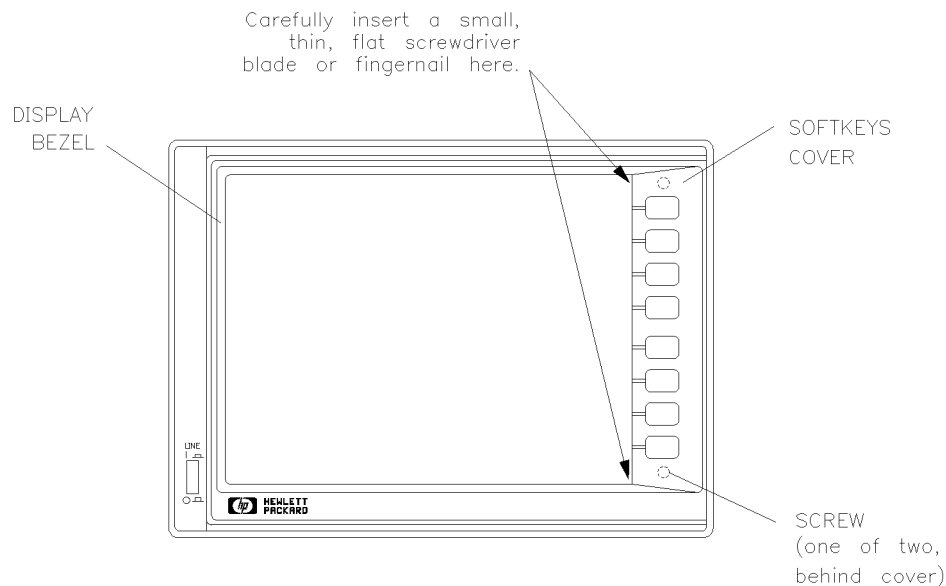

Figure 14-2. Removing the Glass Filter
1. Remove the softkeys cover (a plastic cover through which the front panel softkeys protrude): *carefully* insert a thin, flat screwdriver blade (or your fingernail) between the upper left corner of the softkeys cover and the glass filter. See Figure 14-2. Be extremely careful not to scratch or break the glass. Carefully pull the cover forward and off.